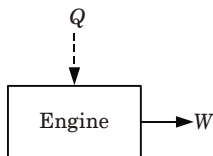

Fig. 1.28.1. A PMM1.
- There can be no machine which would continuously supply mechanical work without some other form of energy disappearing simultaneously (Fig. 1.28.1).